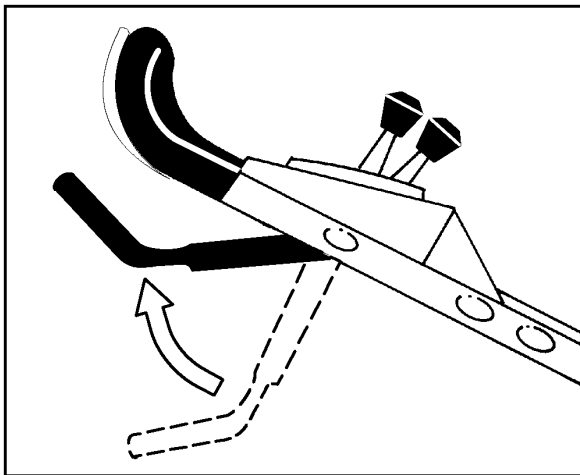

Figure 4
3. Slowly lift the black control bar to a point where the bag just begins to inflate (about 5 inches below the handle cross bar) (Fig. 4). This indicates that the mower blade is engaged and has begun to rotate.